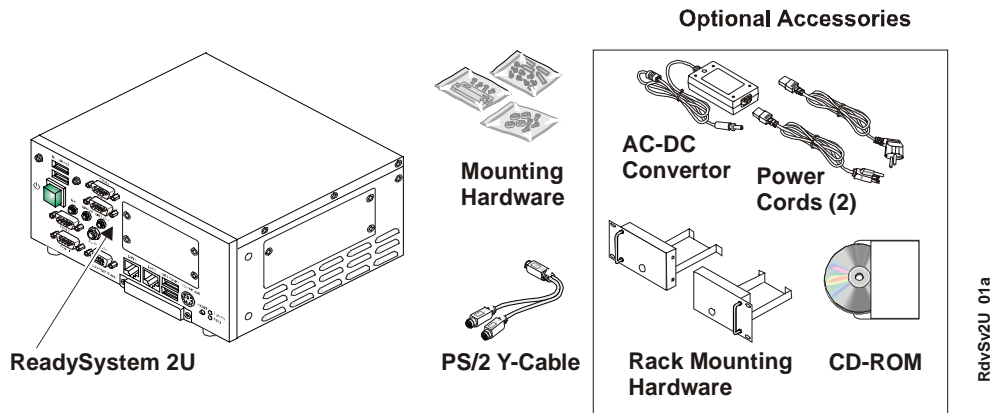

Figure 1-1. ReadySystem 2U Accessories
The Contents List identifies the items in the shipping container for the ReadySystem 2U QuickStart Kit. Production quantities of the ReadySystem 2U, except for the first of multiple boxes, may not contain all of the optional items listed for the QuickStart Kit, but all boxes will have the standard items such as the mounting hardware and the PS/2 Y-cable. The optional items, such as the power adapter, power cords, and rack mount kit may be shipped separately. See Figure 1-1.
1) Open shipping box	<ul style="list-style-type: none"> • Locate the ReadySystem 2U Contents List. See Figure 1-1. • Unpack the contents of the shipping box.